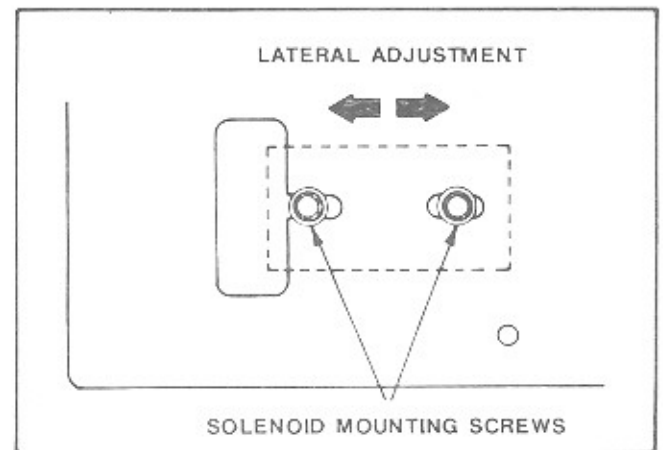

Figure 6-10. Lateral Adjustment
2. Loosen the solenoid mounting screws and with the roll pin against the plunger, position the solenoid so that there is a .015 to .025-inch gap between the sprag lever and the highest point on the sprag wheel (see figure 6-10).